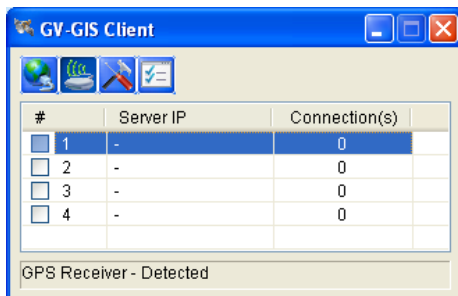

Figure 11-90
2. Click the  button on the GV-GIS Client window (Figure 11-90). This dialog box appears.
3. Click the  button on the GV-GIS Client window (Figure 11-90). This dialog box appears.